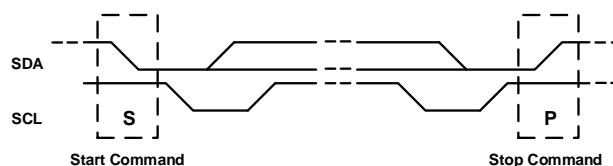

Figure 6: Start and Stop Command
The start and stop commands are signaled by the master device, which signifies the beginning and the end of the digital interface transfer. The start (S) command is defined as the SDA signal transitioning from high to low while the SCL line is high. The stop (P) command is defined as the SDA signal transitioning from low to high while the SCL is high (see Figure 6).